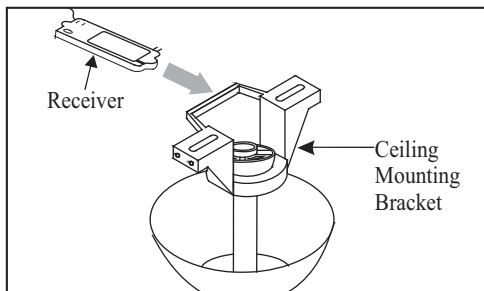

Figure 10
1. Insert the receiver into the mounting bracket with the flat side of the receiver facing the ceiling as Figure 10.